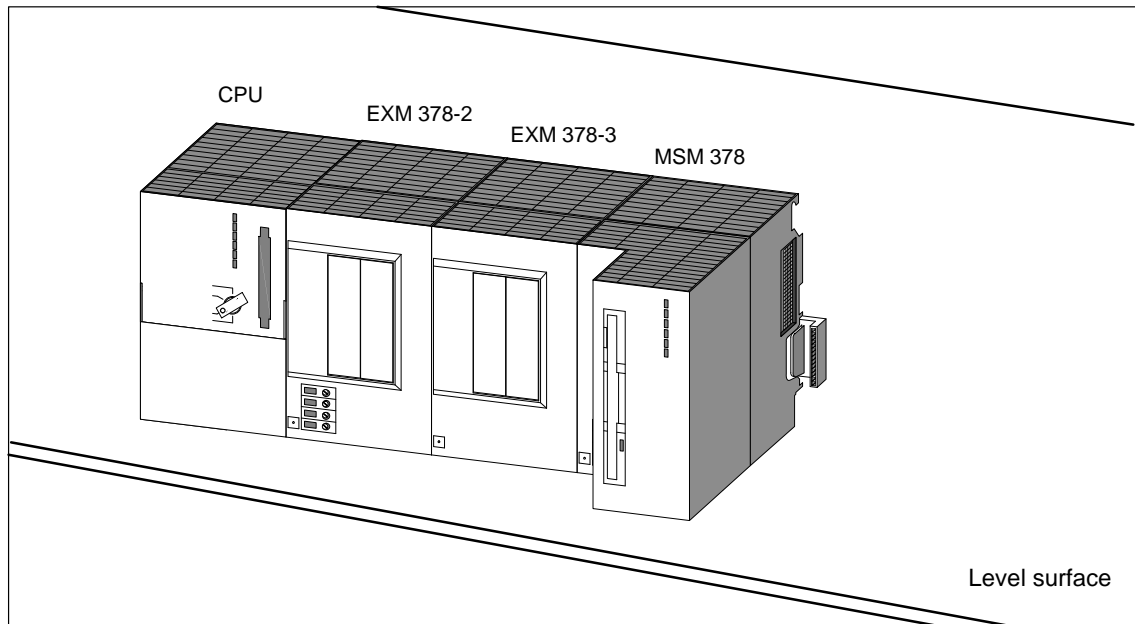

Figure 9-6 Placing the Module Assembly on a Level Surface
10. Place the module assembly on a level surface (Figure 9-6).